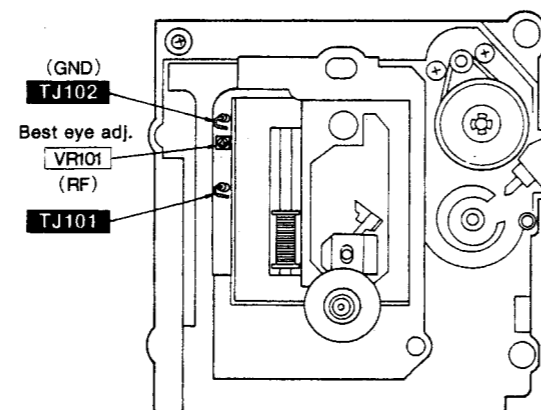

Fig. 3
1. Connect the oscilloscope's CH. 1 probe across TJ101 (RF) and TJ102 (GND) on the servo P.C.B. (Refer to Fig. 3 on page 15)
1. Connect the oscilloscope's CH. 1 probe across **TJ101** (RF) and **TJ102** (GND) on the servo P.C.B. (Refer to Fig. 3 on page 15)